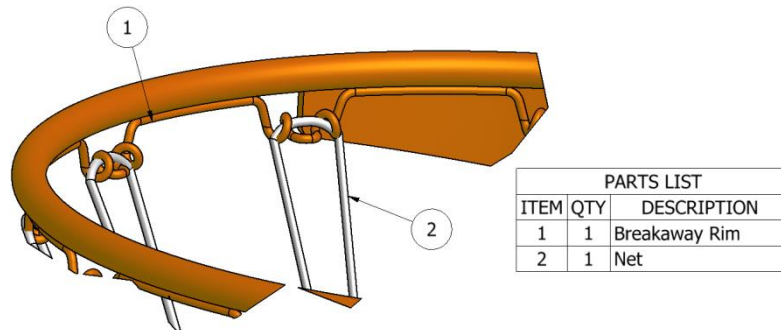

Figure 5-3: Net installation, UBG-500F (not shown), GBA-34A, GBA-542, GBA-548 & GBR360 ONLY.
1. Install the net by wrapping the long loops in the net into the pigtails or NetLocks (Figure 5-3).